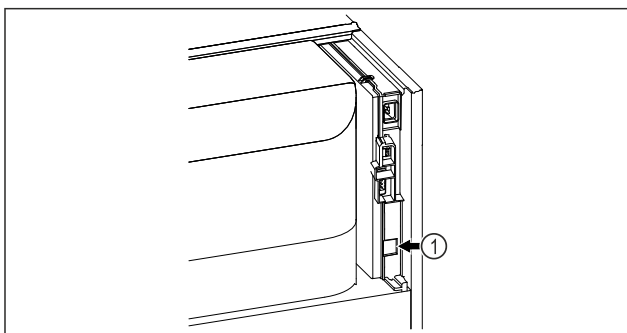

Fig. 96
- SmartModule Fig. 96 (1) is in use.